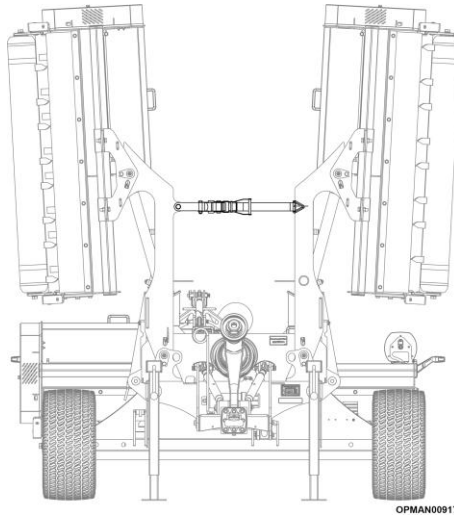

Figure 4.21
- 4.6.1.1 Remove the ratchet securing strap; see Figure 4.21.
- 4.6.1.6 Fit the ratchet securing strap; see Figure 4.21.